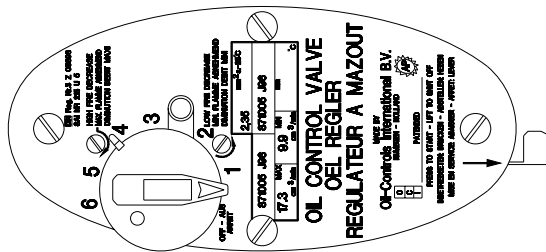

Figure 14B: CARBURETOR (VALVE)
- Make sure that the oil flow control knob is set at « 0 » (figure 14B).